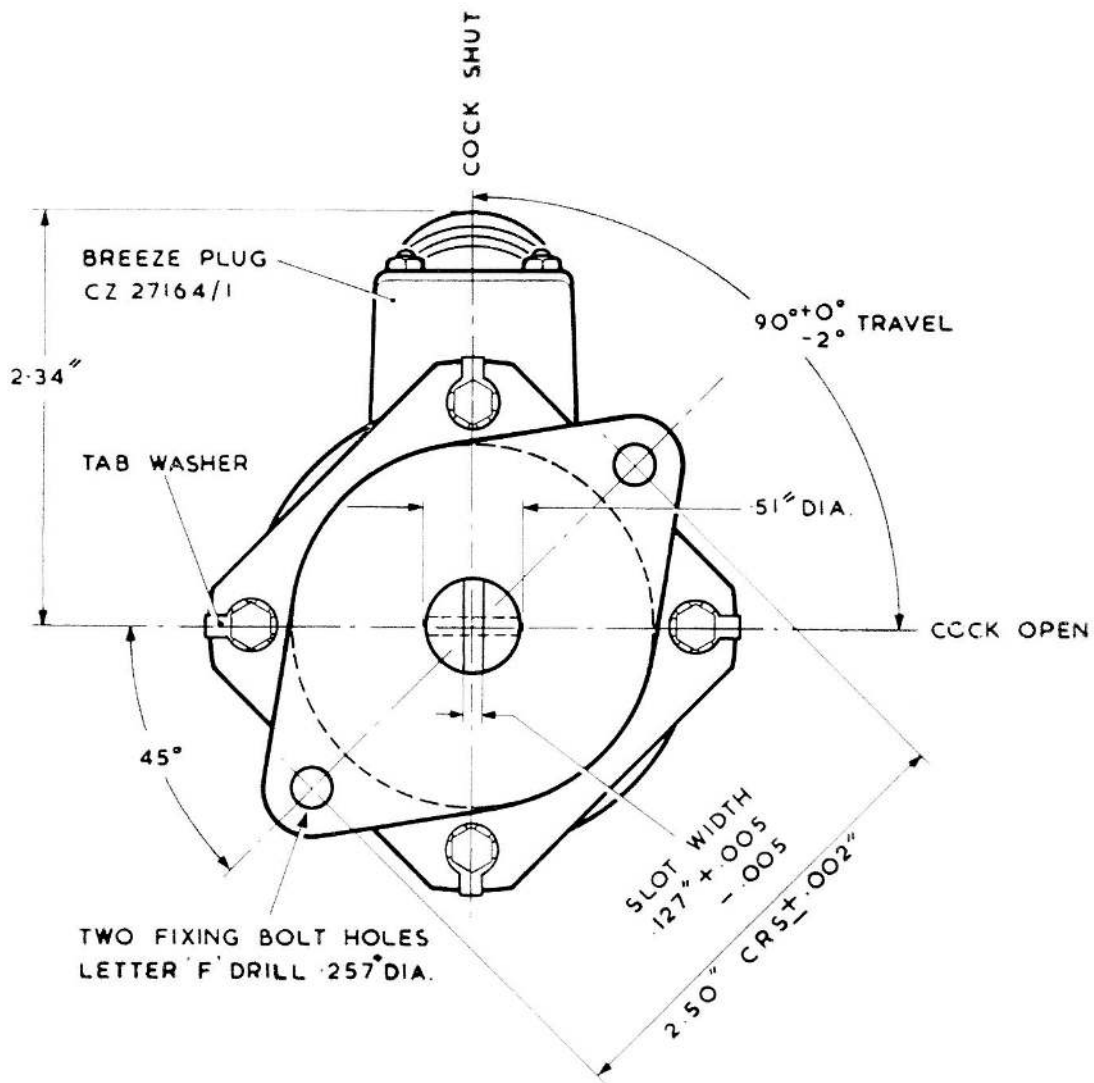

Fig. 1. Installation drawing
2. The snap action limit switches in the Mk. 12 are adjusted during assembly to permit 90° angular travel of the coupling shaft. This adjustment requires the use of a manufacturer's special rig and no attempt should be made to alter the setting. Detail of the movement of the coupling shaft relative to the mounting flange is shown in fig. 1. The operating times under various